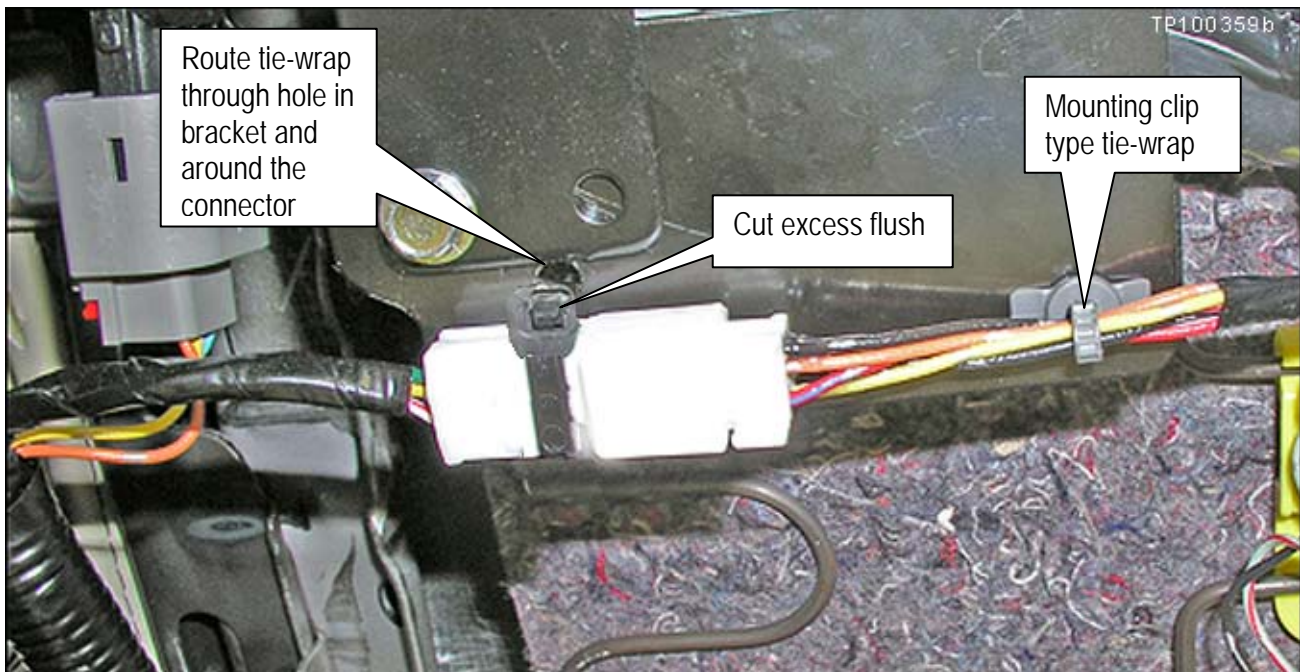

Figure 8a
9. Clip / snap the BTS connector onto the new bracket (see Figure 8a).
10. Install a tie-wrap (P/N 24216 – S5800) around the connector as shown in Figure 8a.
11. Install a “mounting clip type” tie-wrap (P/N 24225 - 79900) as shown in Figure 8a.